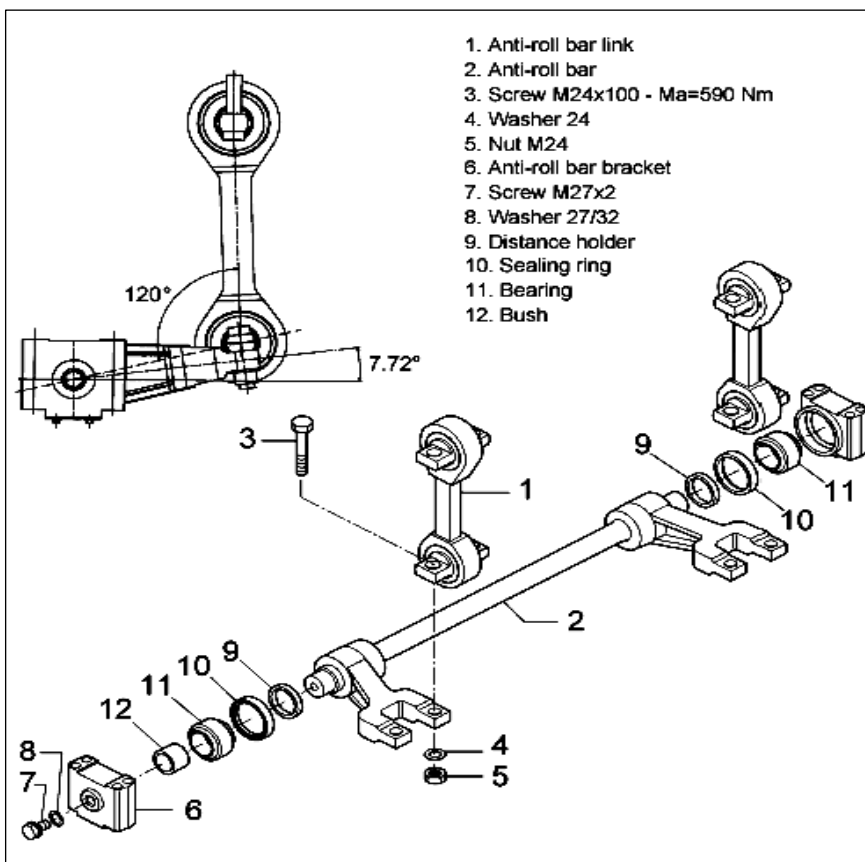

Fig. 4.2 Anti Roll Bar Assembling
Assemble the anti-roll bar as shown in Fig. 4.2: respect the shown mounting angles and the tightening torques for nuts and screws. First mount the brackets (6), the bush (12) and the bearing (11), the distance holders (9) and the sealing rings (10). Then mount the anti-roll bar links (1).